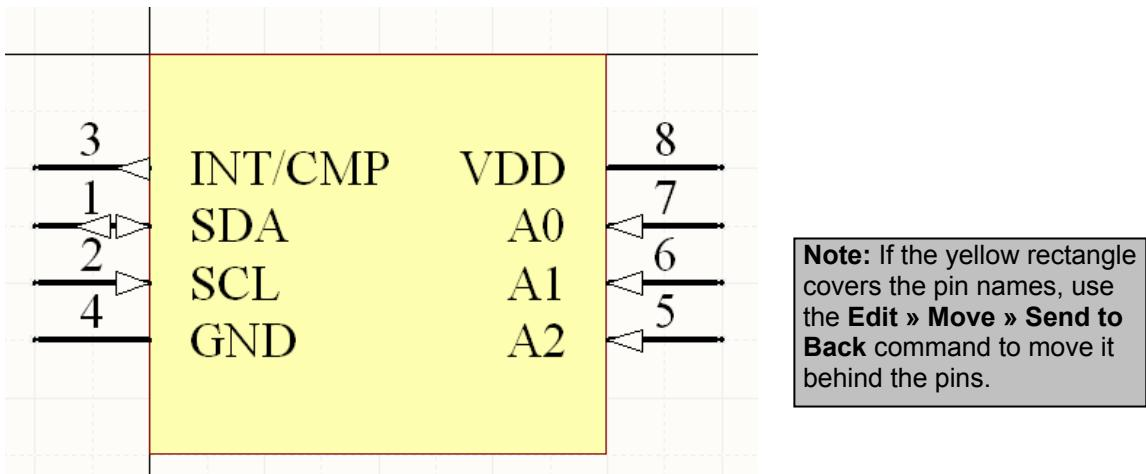

Figure 11. Microchip TCN75 serial temperature sensor
9. Create the graphical representation for the component as shown in Figure 11. The component body is a **Rectangle**, placed at the origin in the center of the sheet. The origin is indicated by the two darker lines that form a crosshair, zoom in/out to show the crosshair and the gridlines. Start placing the rectangle at the origin, the body is 80 units wide by 70 units high, you can use the coordinates shown on the **Status bar** to guide you.